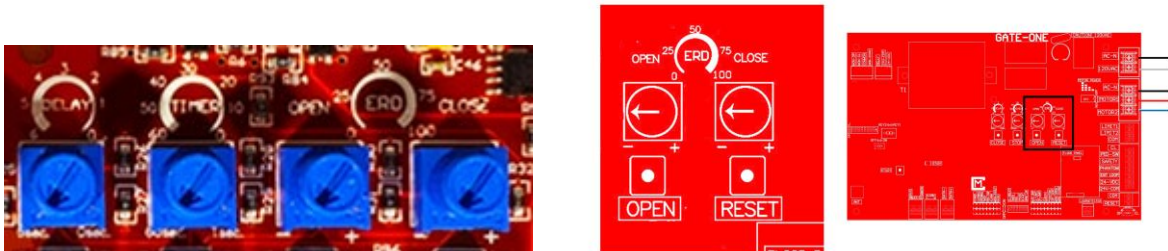

Figure 22
1. OPEN Sensitivity: Increase/decrease amount of force by turning knob clockwise/counter clockwise. This is the third blue knob in the circuit board. Figure 22, left.
2. CLOSE Sensitivity: Increase/decrease amount of force by turning knob clockwise/counter clockwise. This is the fourth blue knob on the circuit board. Figure 22, left.